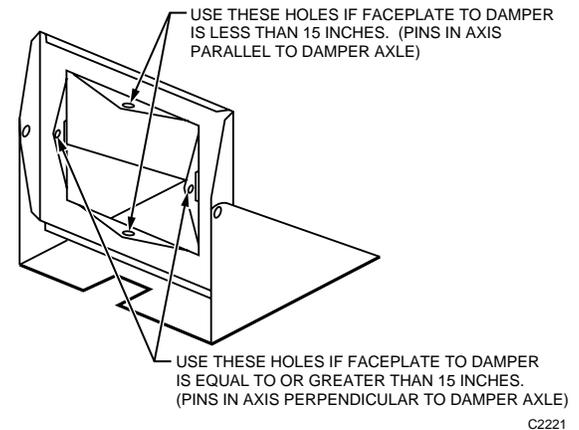

Fig. 16. Faceplate Installation.
7. Install actuator to faceplate using the two clevis pins, washers, and clips from Step 4. See Fig. 16.